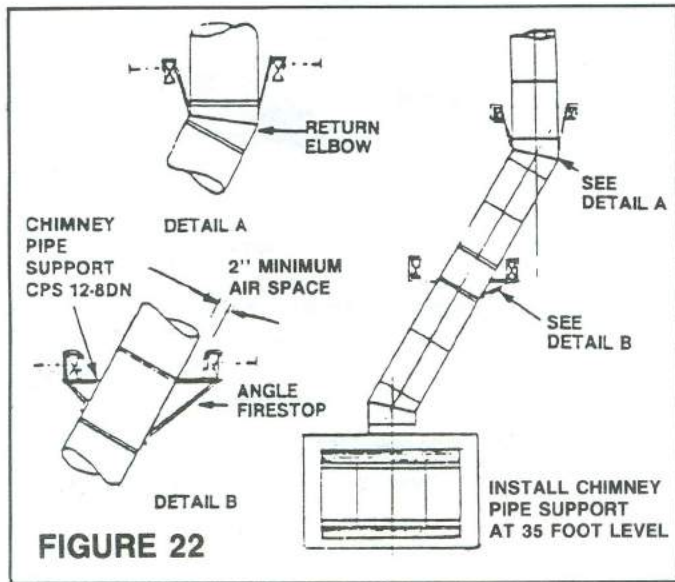

FIGURE 22
2. Chimney weight above offset rests on return elbow. Straps must be securely nailed to rafters or joists. (See Figure 22.)